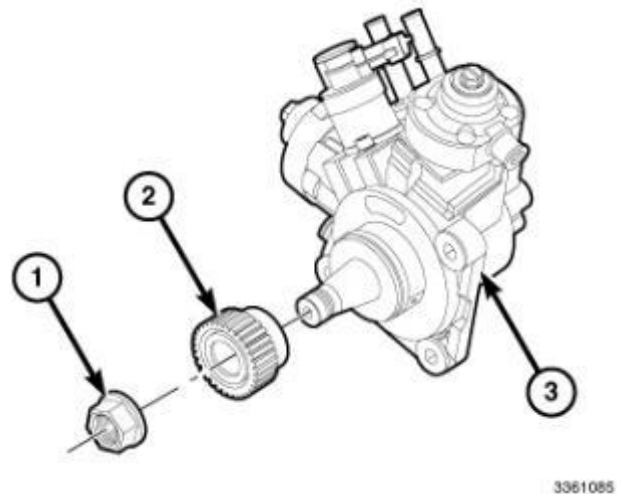

Figure 144 – O-ring Seal
- 82. Install the gear (2) and nut (1) onto the fuel injection pump (3) and tighten the nut (1) finger tight (Figure 144).